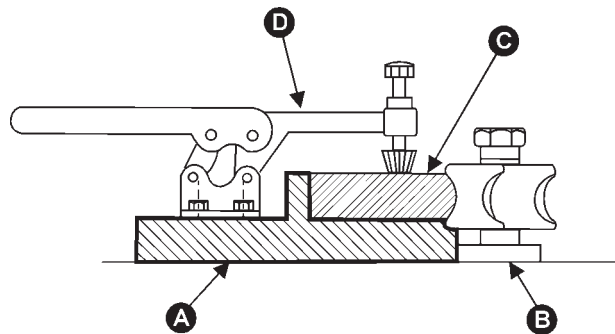

FIGURE 26
1. Prepare the jig (A), Figure 26, to accommodate your original workpiece.
2. Place the jig (A) against the table insert guide shoulder (B).
3. Fasten the new workpiece (C) on the jig (A) with the clamp (D) and push the assembly past the cutter.